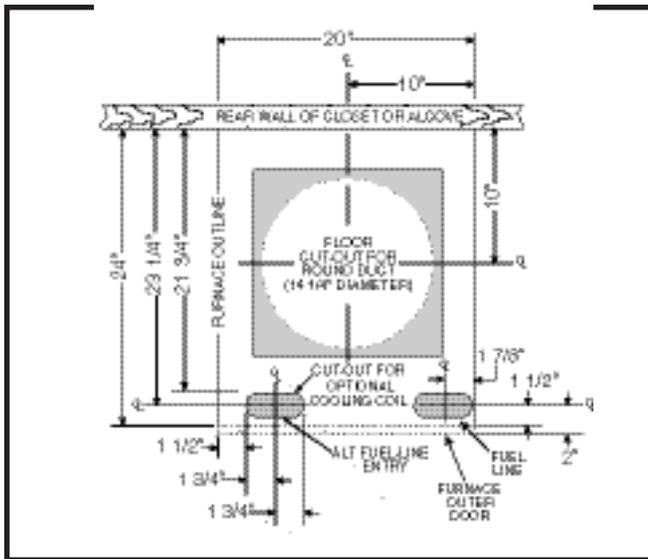

Figure 9. Standard Duct Connector Installed
2. Mark the cut-out area on the supply air duct by tracing around the connector tabs of the duct connector. See Figure 9 \(page 8\).
5. Install the optional mounting plate under the back side of the duct connector as shown in Figure 9. Align the screw holes in both components.